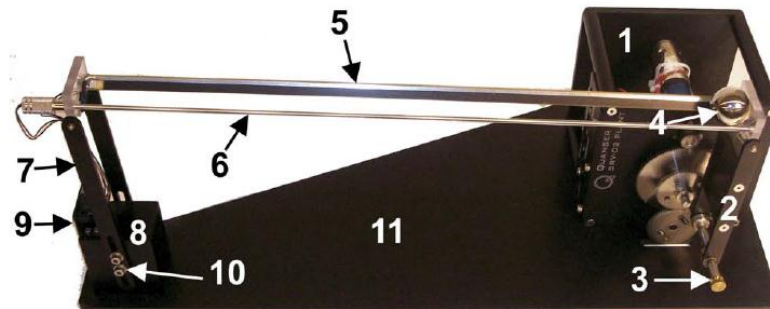

Figure 1. Beam and Ball experiment.
The goal of this experiment is to design, implement and test a proportional-derivative (PD) controller that stabilizes a ball to a desired position along the beam (Fig.1).